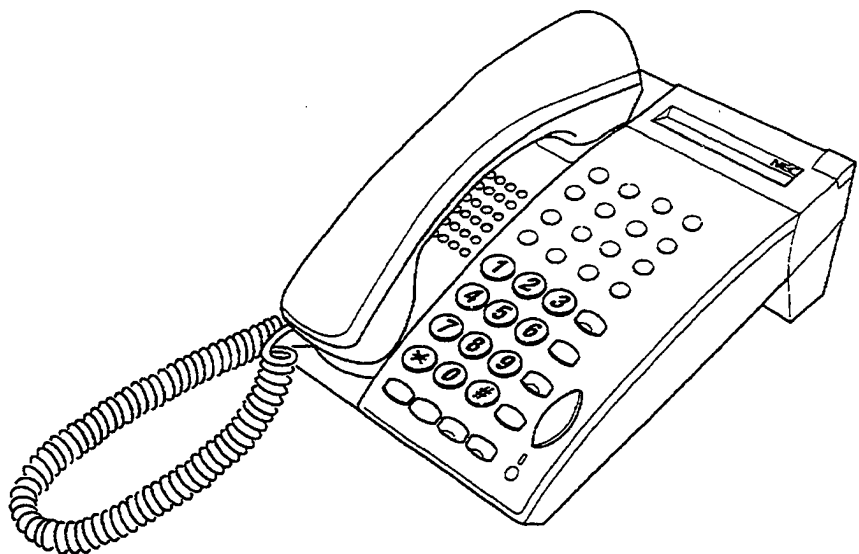

Figure 1-41 DTU-16-() (BK)/(WH) TEL
7.2.2 DTU-16-() (BK)/(WH) TEL
This non-display digital multiline terminal has 16 programmable line keys (each with a two-color LED), built-in speakerphone, a built-in headset jack, a Large LED to indicate incoming calls and messages, and compatibility with the ADA-U, APR-U, and HFU-U Units. Refer to Figure 1-41 - DTU-16-() (BK)/(WH) TEL.